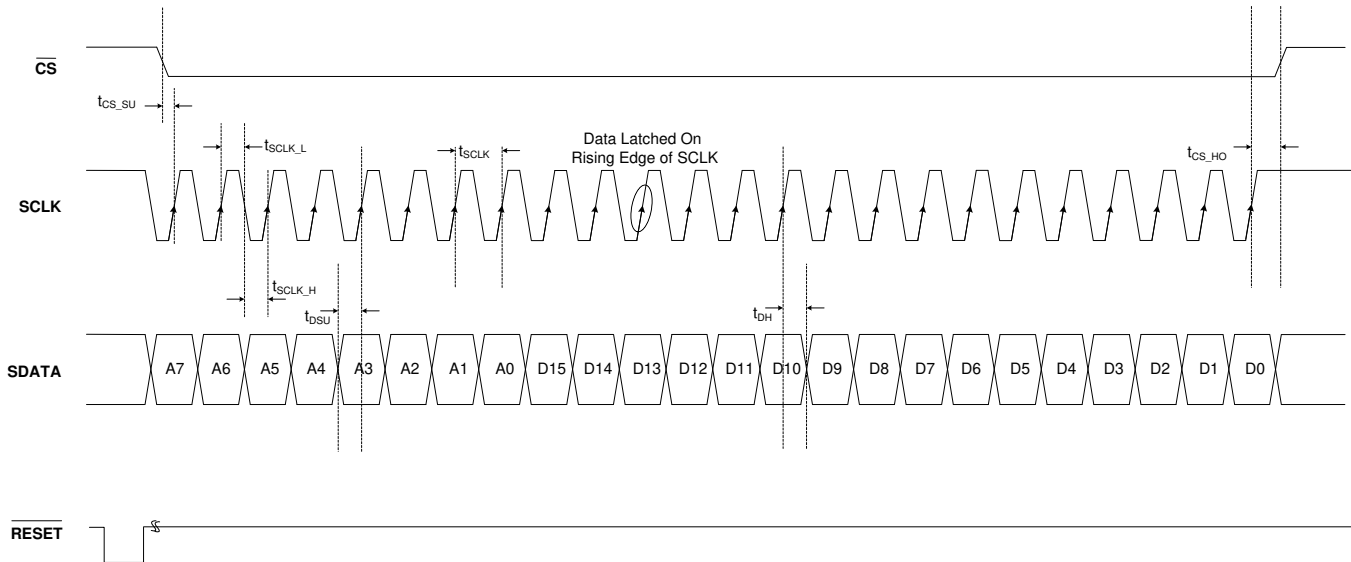
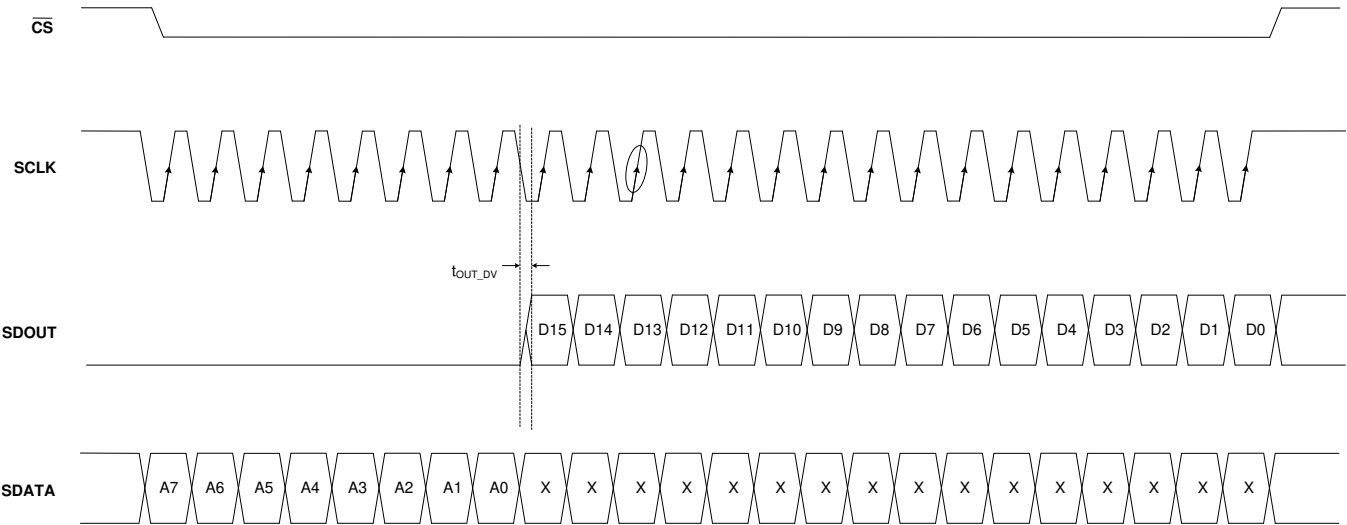

Figure 74. Serial Interface Write Timing Diagram
Figure 76. Serial Interface Read Timing Diagram
1. Either through a hardware reset by applying a low pulse on the $\overline{\text{RESET}}$ pin (of widths greater than 50 ns), as shown in Figure 74; or
Table 7. Timing Characteristics for Figure 74 and Figure 76⁽¹⁾
(1) Typical values are at T_A = +25°C, minimum and maximum values are across the full temperature range of T_{MIN} = –40°C to T_{MAX} = +85°C, unless otherwise noted.
(2) See Figure 76
To exit serial readout mode, reset the EN_READOUT register bit to '0', which enables writes to all device registers. At this point, the SDOUT pin is in 3-state. A detailed timing diagram for the serial readout mode is shown in Figure 76.